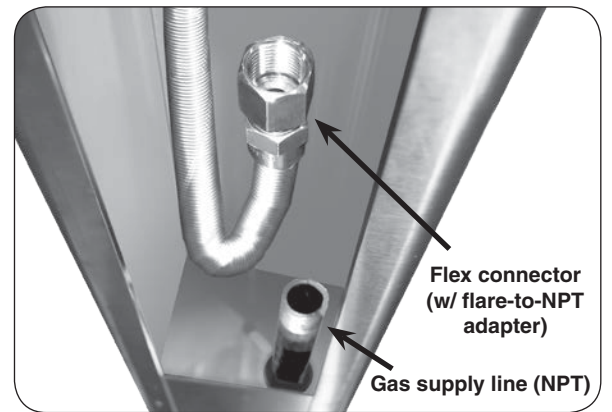

Fig. 17-2 Post interior detail
2. Verify that the gas supply line fits through the gas line clearance hole in the bottom of the post (see Fig. 17-2). The clearance hole is the larger of the two holes in the bottom of the post and is off center.